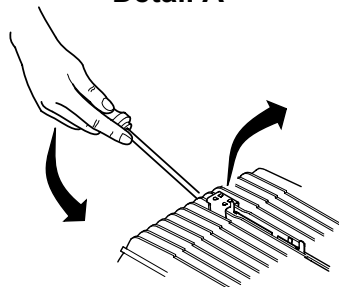

Fig. 902 Change the control unit, overheating sensor and the combustion and hot air blower (drive unit)
When you fit the bottom shell (4), spread it slightly so that the spacers on the overheating sensor (9, fig. 902) are not damaged.
3. Disconnect the plug connections on the control unit (3, Fig. 902).
4. Remove the screws (4).
5. Slide the control unit (3) towards the hot air blower and remove it upwards.
1. Insert the control unit (3, fig. 902) on the combustion and hot air blower (1), push it towards the blower casing and secure it with screws (4).
2. Tighten the screws (4) to  $3.0 \pm 0.3$  Nm.
3. Disconnect plug connection X3 on the control unit (3, fig. 902).
4. Lever the overheating sensor (9) out of the heat exchanger's ribs using a suitable tool (see Detail A).
1. Measure the resistance of the overheating sensor (9, fig. 902) (see 6.3.2).
2. Position the overheating sensor (9) and press it into place by hand.
3. Ensure that the overheating sensor is correctly positioned in the heat exchanger (7).
4. Connect plug connection X3 to the control unit (3).
Replace the drive unit (1, fig. 902) only with a drive unit with the same rating data and the same Part No.
1. Ensure that the sealing surfaces on the combustion and hot air blower (1, fig. 902) and on the heat exchanger (7) are not damaged.
2. Fit a new flat seal (6) on the flange of the combustion and hot air blower (1).
3. Position the combustion and hot air blower (1) into the assembly position and secure it with screws (2).